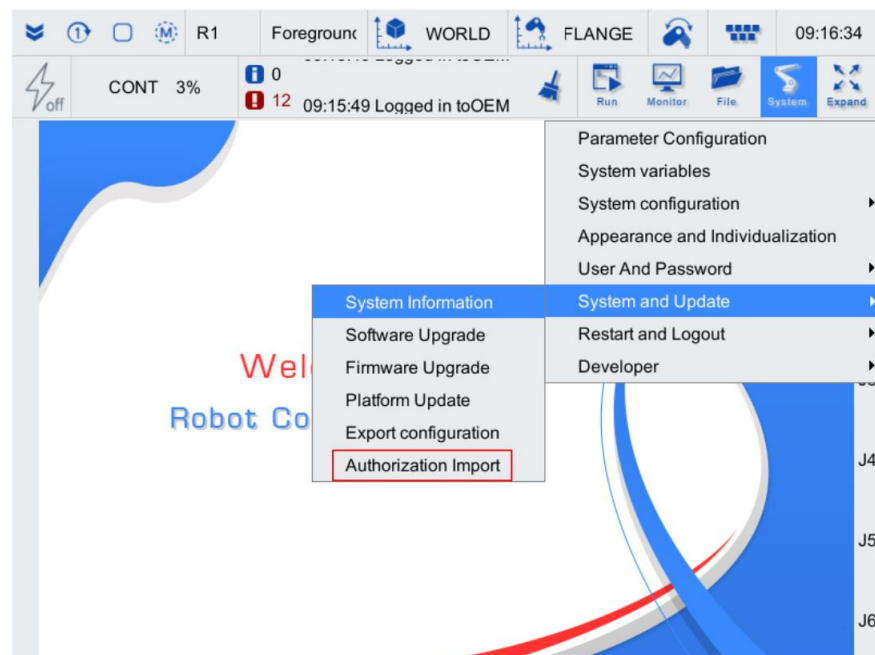

Figure 2-1 Teach pendant main interface
Step3. Select the [System/System and Update/Authorization Import] option in the menu area in the upper right corner of the main interface of the teach pendant, as shown in Figure 2-1.